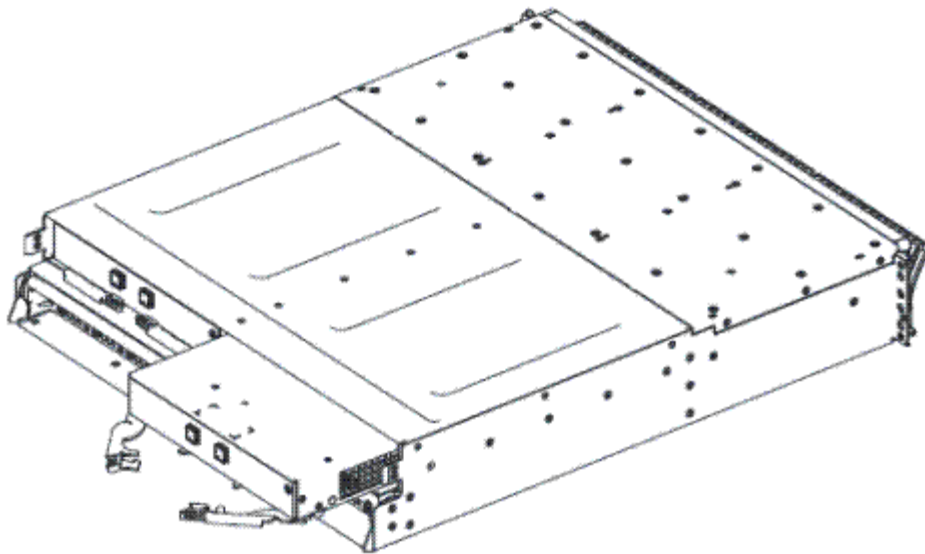

Figure 127. Removing and replacing the IBM Storage FlashSystem expansion canister
6. Open the two release levers as shown in Figure 127 on page 165.